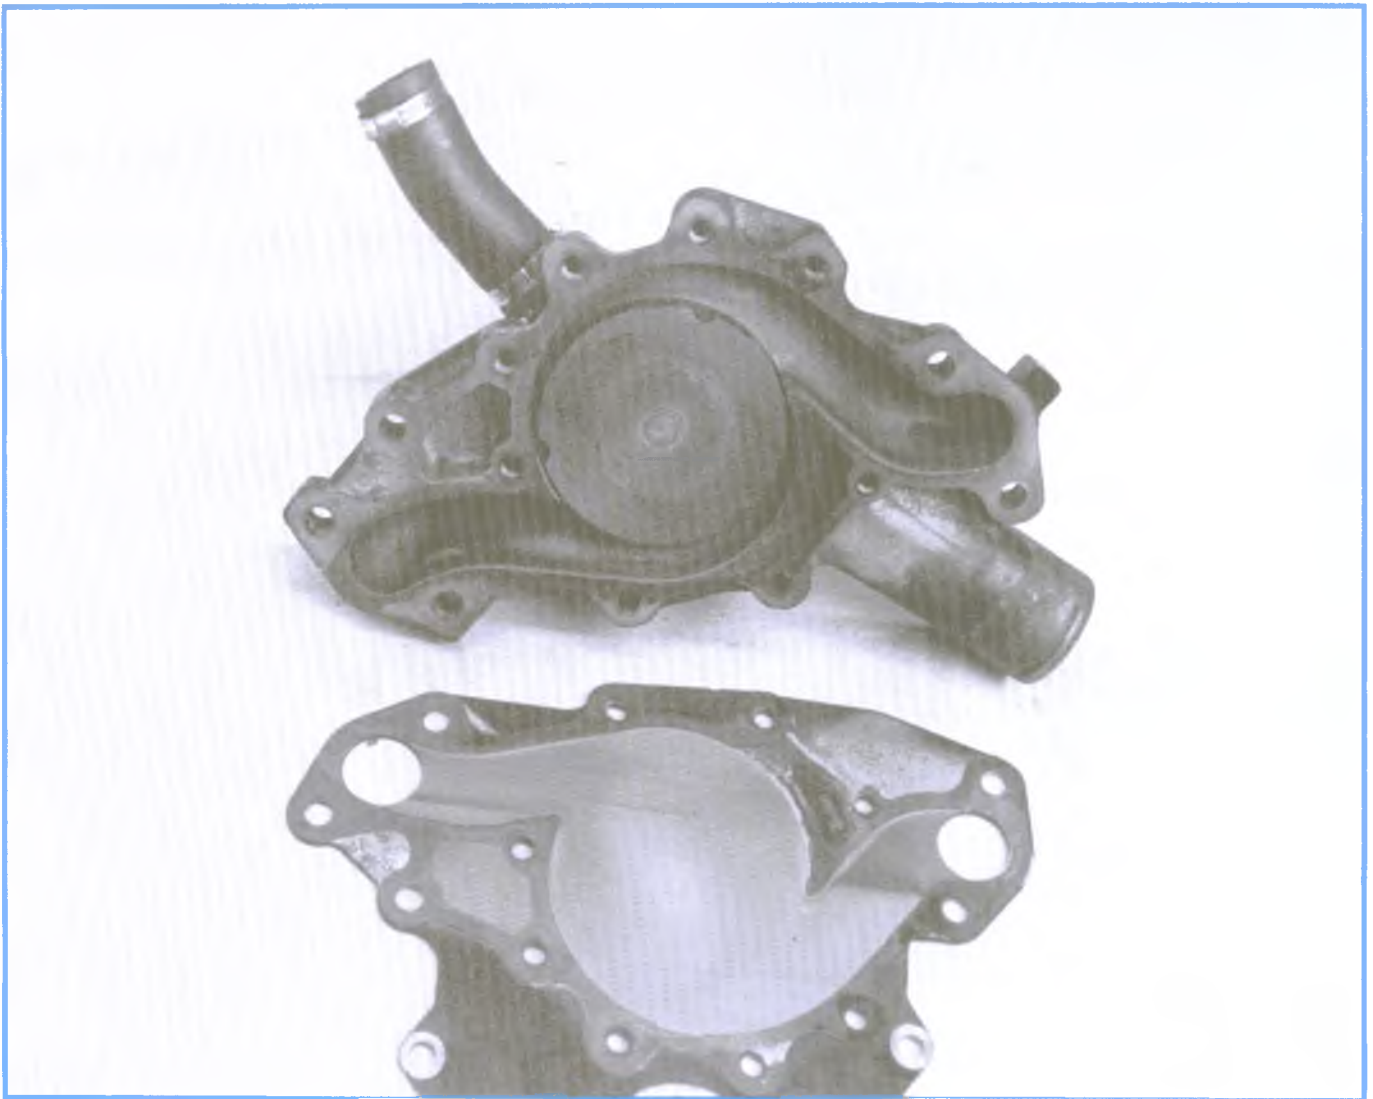

Figure 4-16, Water Pump Inspection
- A. Check drive belt tension and condition (see Figure 4-16):
7. Remove and check the water pump operation (see Figure 4-16):